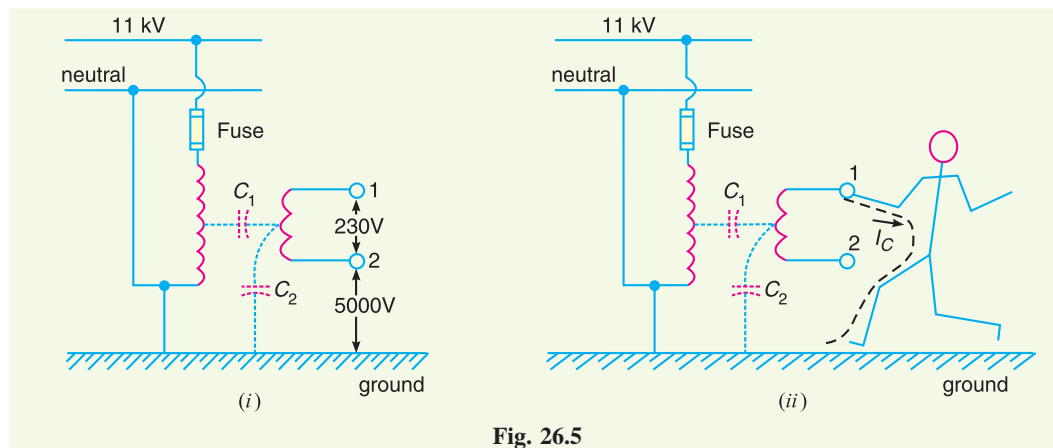

Fig. 26.5
- (i) Fig. 26.5 (i) shows the primary winding of a distribution transformer connected between the line and neutral of a 11 kV line. If the secondary conductors are *ungrounded*, it would appear that a person could touch either secondary conductor without harm because there is no ground return. However, this is not true. Referring to Fig. 26.5, there is capacitance  $C_1$  between primary and secondary and capacitance  $C_2$  between secondary and ground. This capacitance coupling can produce a high voltage between the secondary lines and the ground. Depending upon the relative magnitudes of  $C_1$  and  $C_2$ , it may be as high as 20% to 40% of the primary voltage. If a person touches either one of the secondary wires, the resulting capacitive current  $I_C$  flowing through the body could be dangerous even in case of small transformers [See Fig. 26.5(ii)]. For example, if  $I_C$  is only 20 mA, the person may get a fatal electric shock.